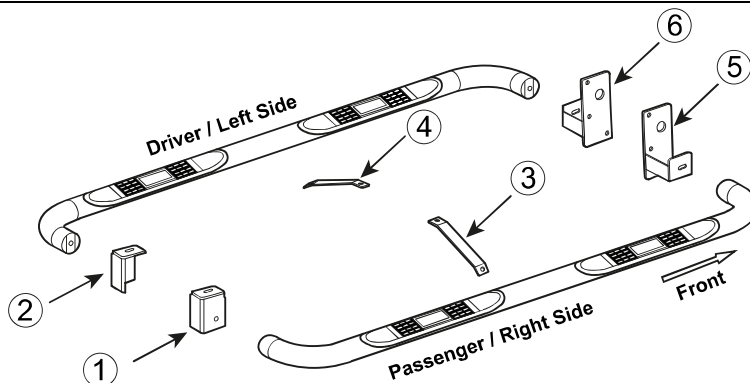

Fig 4
6. Position Sidebar onto Mounting Brackets and attach it using the included (4) 8mm x 20mm Hex Head Bolts, (4) 8mm Lock Washers, and (4) 8mm Flat Washers (**Figure 4**). Do not tighten at this time.